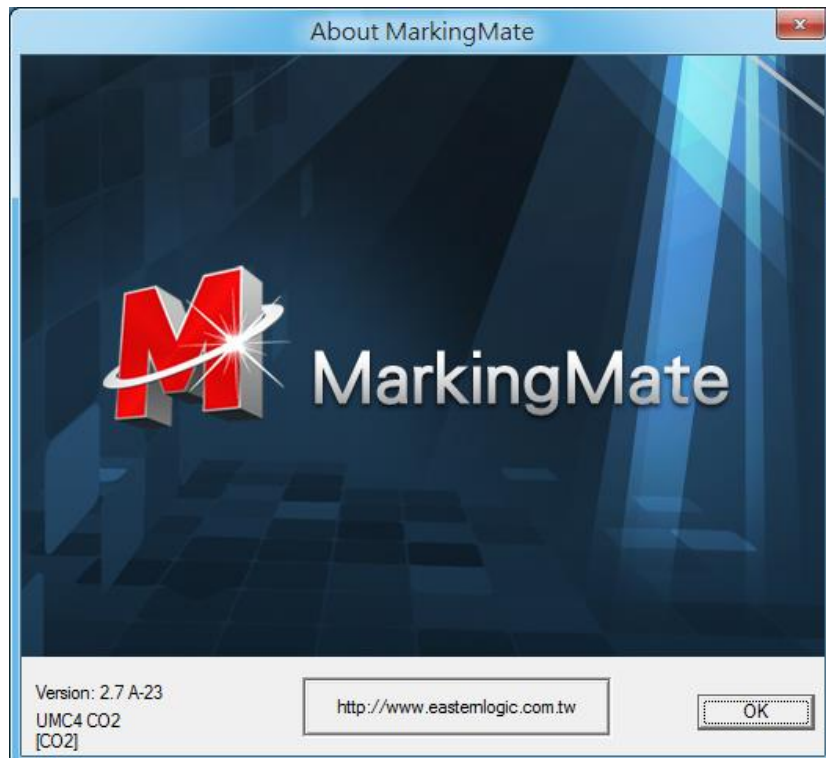

Fig. 1.9.04
**About MM3D** Show the current using version and driver of MM3D, see Fig.1.9.04.